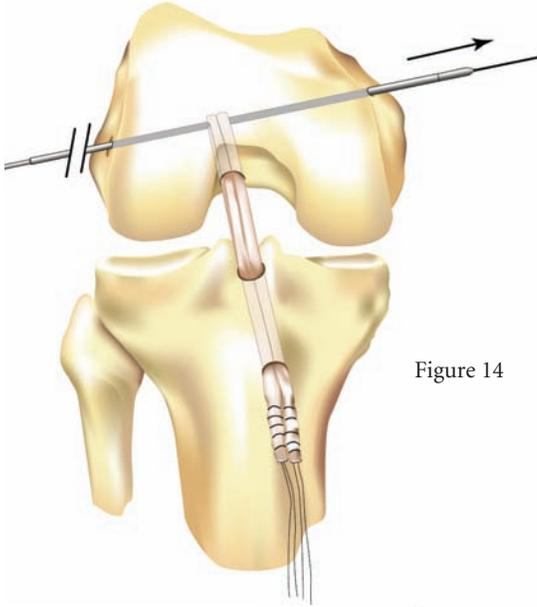

Figure 14
1.5mm x 2.4mm Stepped Insertion Pin is pulled across the knee, leaving enough length on the lateral side to guide the Stryker Biosteon Cross-Pin into the femur. With the 1.5mm x 2.4mm Stepped Insertion Pin through the graft and across the knee the surgeon can then pull on the sutures of the graft to ensure the graft is looped over the rigid guide wire (Figure 14).